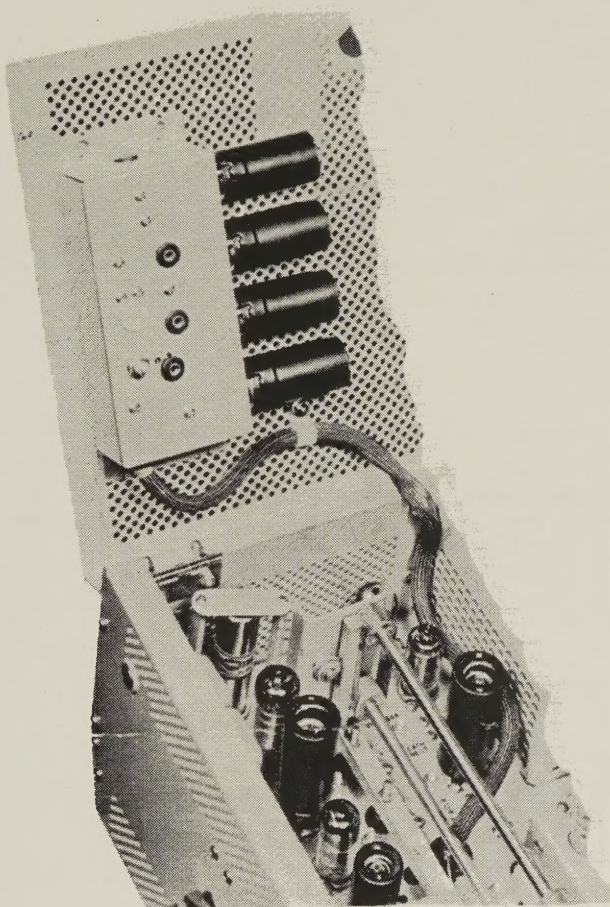

Figure 1. 136B-1 Noise Blanker Installed in KWM-1 Transceiver
The 136B-1 Noise Blanker converts noise to bias pulses for gating the receive circuits of the KWM-1 Transceiver. This minimizes receiver output noise when it is a result of radiated noise present on the antenna. Figure 1 shows the 136B-1 installed in the KWM-1.
- c. Mount the 136B-1 Noise Blanker inside the top cover, as shown in figure 1, using existing holes in the perforated pattern as mounting. After the blanker is mounted, check clearances by closing cover and observing if any part of the blanker rubs on the rear slug rack bracket, rear pulley of the slug rack, vfo tube, or thumb nut on the rear of the 13C-1 Crystal Box. If any interference is found, the location of the blanker can be adjusted by loosening the mounting screws and repositioning.